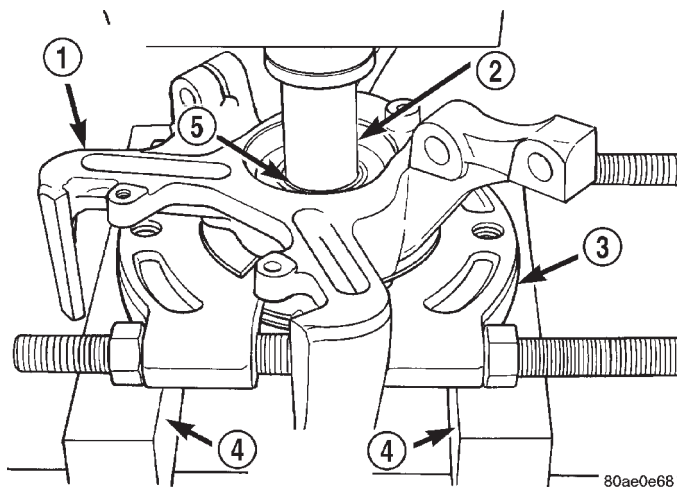

Fig. 35 Pressing Hub Out Of Wheel Bearing
(7) Position Driver, Special Tool 6644-2, on the small end of the hub (Fig. 35). Using the arbor press, remove the hub from the wheel bearing. The outer bearing race will normally come out of the wheel bearing when the hub is pressed out of the bearing.